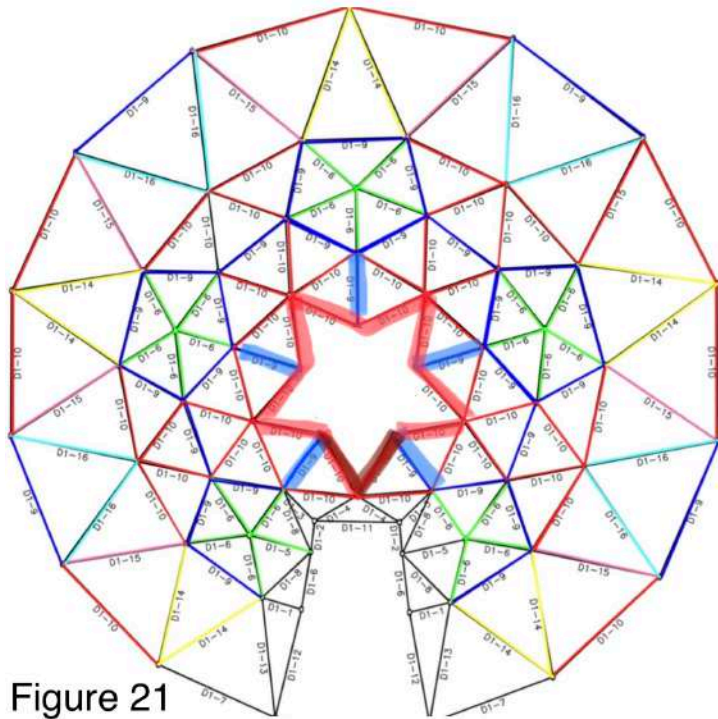

Figure 21
- Five #9 struts are used in this layer (highlighted blue, Figure 21)
- The #9 struts in this layer attach to the remaining two #10 struts of the pre-assembled 6-pointed star (highlighted red, Figure 21)
- Above the door attach two #10 struts (highlighted dark red, Figure 21). At the bottom of these struts, add a washer. The top of these struts attach to the #9 struts by the door.